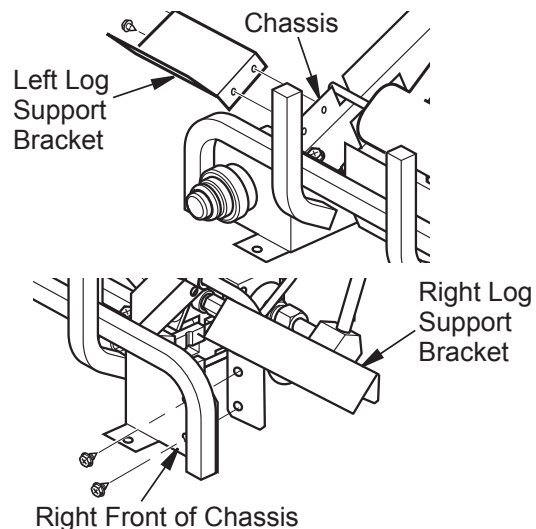

Figure 23- Installing Log Support Brackets
1. Install left bracket to left side of chassis using 2 screws provided (see **Figure 23**).
2. Install right bracket to right front of chassis using 2 screws provided (see **Figure 23**). This bracket will also be used as remote control bracket if remote is installed.